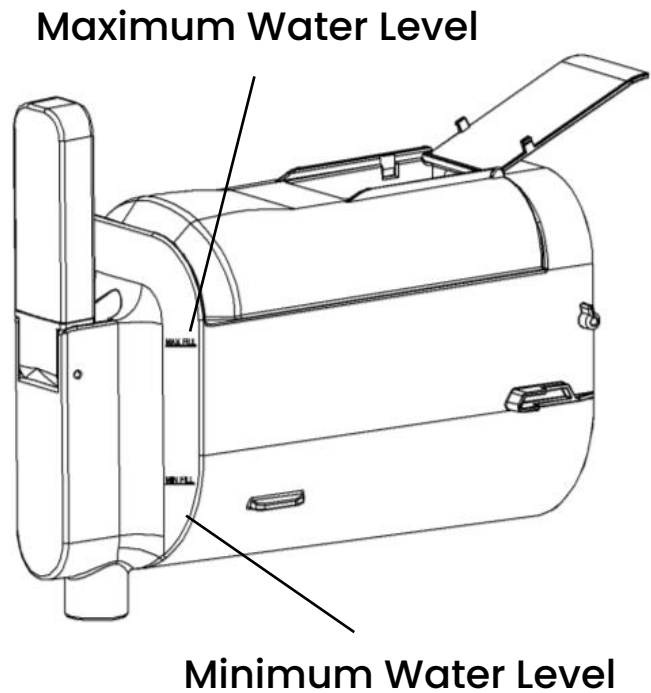

Figure 2
- 4.** The liquid capacity should be between the minimum and maximum water levels (as shown in Figure 2).